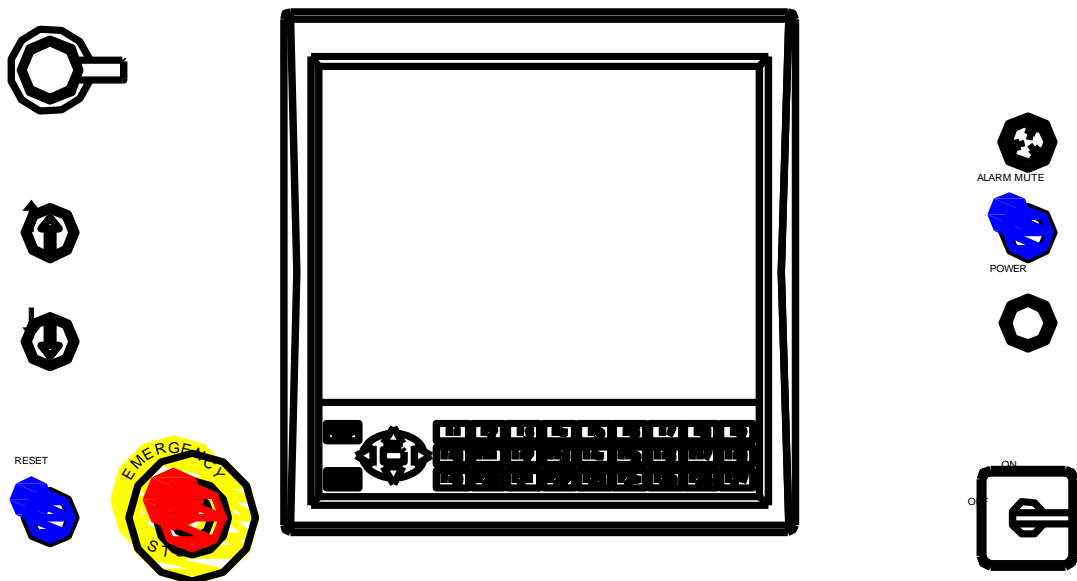

Figure 3
Power up is achieved via the control power switch located below the operator interface (see Figure 3)
A power indicator illuminates to confirm that control system is on. (see Figure 3)
**Note:** The stoppering facility cannot be operated however until the '**RESET**' button is pressed. (See figure 3)
**Power down** is achieved via the control power switch located below the operator interface (see Figure 3)